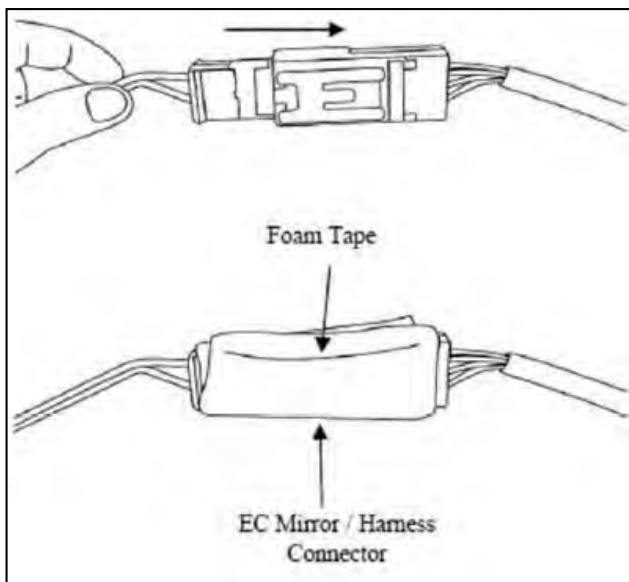

Figure 13
13. Connect the mirror harness to the mirror main power harness. Make sure both connectors are fully engaged. Wrap foam tape around connectors. See figure 13.